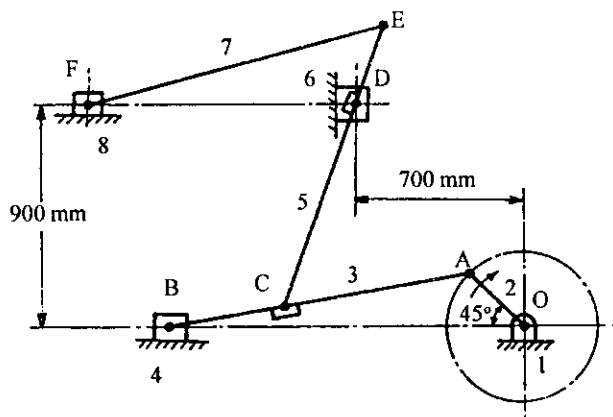

Fig. 3.37
5. For the steam engine mechanism shown in fig. 3.37, determine the acceleration of the slider F and angular acceleration of the link CE, for a crank speed of 140 rpm for the given configuration. The dimensions of the various links are: OA = 300 mm, AB = 1.2 m, BC = 450 mm, CE = 1.2 m, and EF = 1.2 m. [Ans. 9 m/s^2 , 45 rad/s^2]